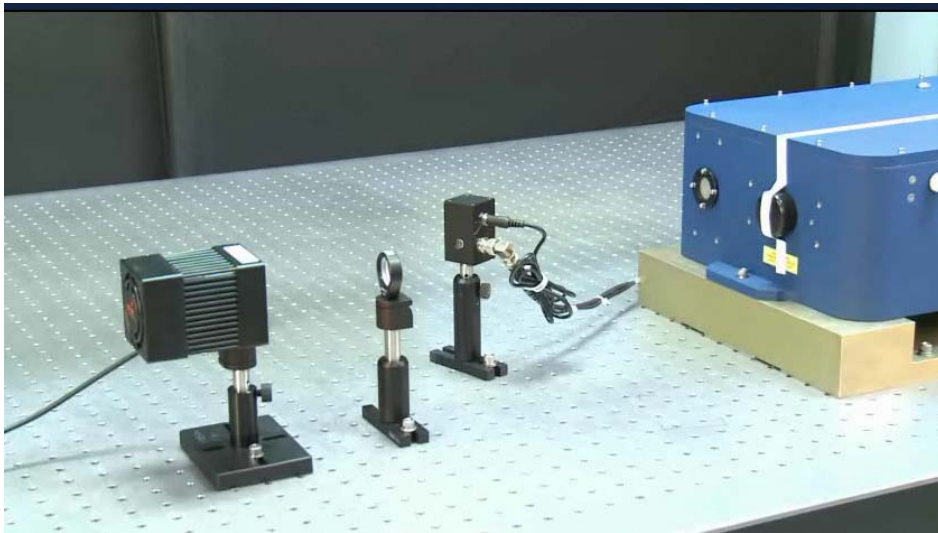

Figure 4-2. Basic setup for the laser power test
A power meter, with the ability to handle a minimum of 30 W, should be installed approximately 1.5 feet away from the laser in the direction of the laser output beam. To protect the power meter, a negative lens ( $f=-100$  mm) with an anti-reflective (AR) coating at 532 nm should be installed in front of the power meter as shown in Figure 4-2 below. If a negative lens is not available, the power meter should be at least 2 m away from the laser so that the beam size is larger and the power density is below the damage threshold of the power meter. A pulse detector should be positioned as shown in Figure 4-2 to verify the pulse characteristics of the laser.